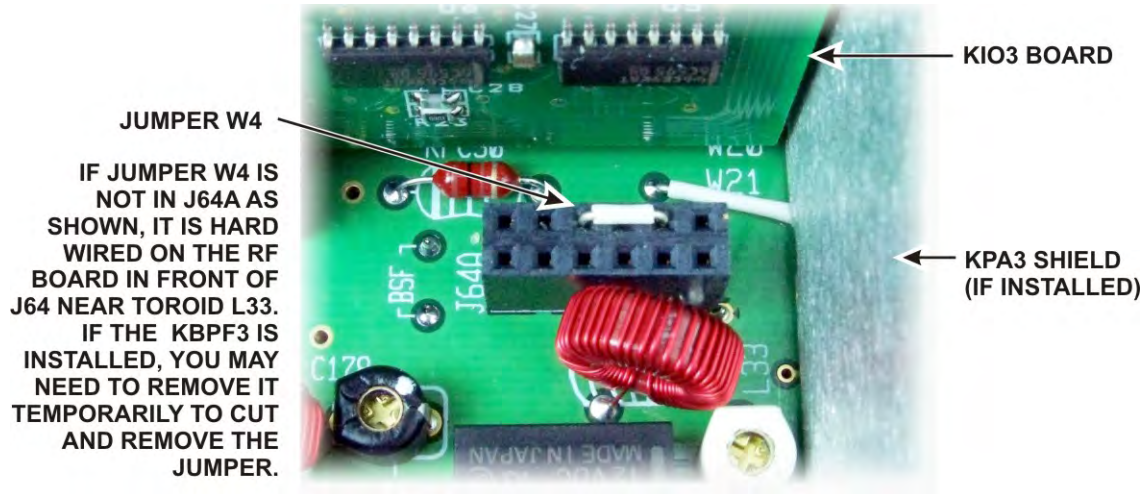

Figure 45. Jumper W4 on the K3 RF Board.
☐ Remove jumper W4 from connector J64A on the K3 RF board. J64A is near the KIO3 board as shown in Figure 45. On some older RF boards, W4 is a jumper soldered between two pads on the board itself. If your board has a hard-wired jumper, cut it with diagonal cutters and completely remove the ends so they cannot short to the ground plane or nearby pads. If you ever want to operate your K3 with the KRX3 subreceiver removed, make up a jumper and insert it in J64A as shown in the figure.
- Replace jumper W4 in the connector shown in Figure 45. Be sure to put the jumper on the pins shown.